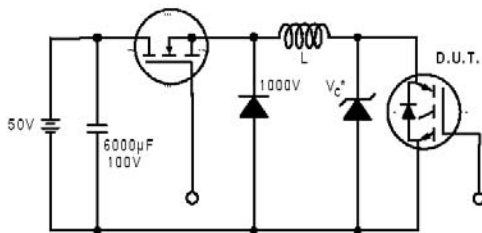

Fig. 19 - Clamped Inductive Load Test Circuit
- ② $V_{CC}=80\%(V_{CES})$, $V_{GE}=20V$, $L=10\mu H$, $R_G=100\Omega$ (figure 19)
- ③ Pulse width $\leq 80\mu s$, duty factor $\leq 0.1\%$.
- ④ Pulse width $5.0\mu s$, single shot.